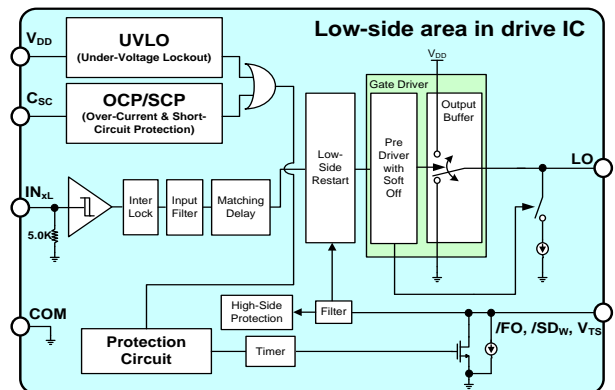
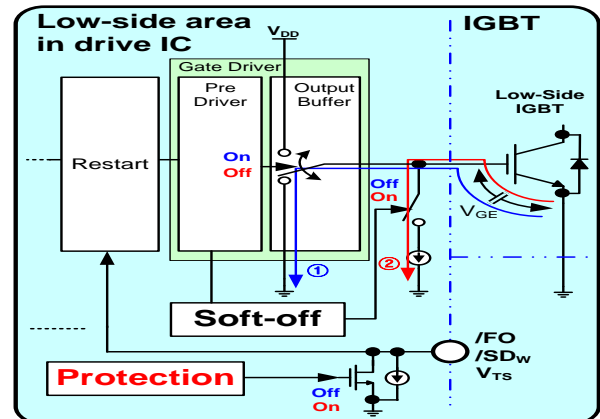

Figure 19. Internal Block Diagram of Gate Drive IC
Figure 20. Operating Sequence of Soft Turn-Off
An internal block diagram of the low-side and operation sequence of the soft turn-off functions are shown in Figure 19 and Figure 20. This function operates by two internal protection functions (UVLO and OCP/SCP). When the IGBT is turned off in normal conditions, gate drive IC turns off the IGBT immediately by turn-off gate signal ( $IN_{XL}$ ) via gate driver block. Pre-driver turn-on output buffer of gate driver block, path ①. When the IGBT is turned off by a protection function, the gate driver is disabled by the protection function signal via output of protection circuit (disable output buffer, high-Z) and output of the protection circuit turn-on switch of the soft-off function.  $V_{GE}$  (IGBT gate-emitter voltage) is discharged slowly via circuit of soft-off (path ②).